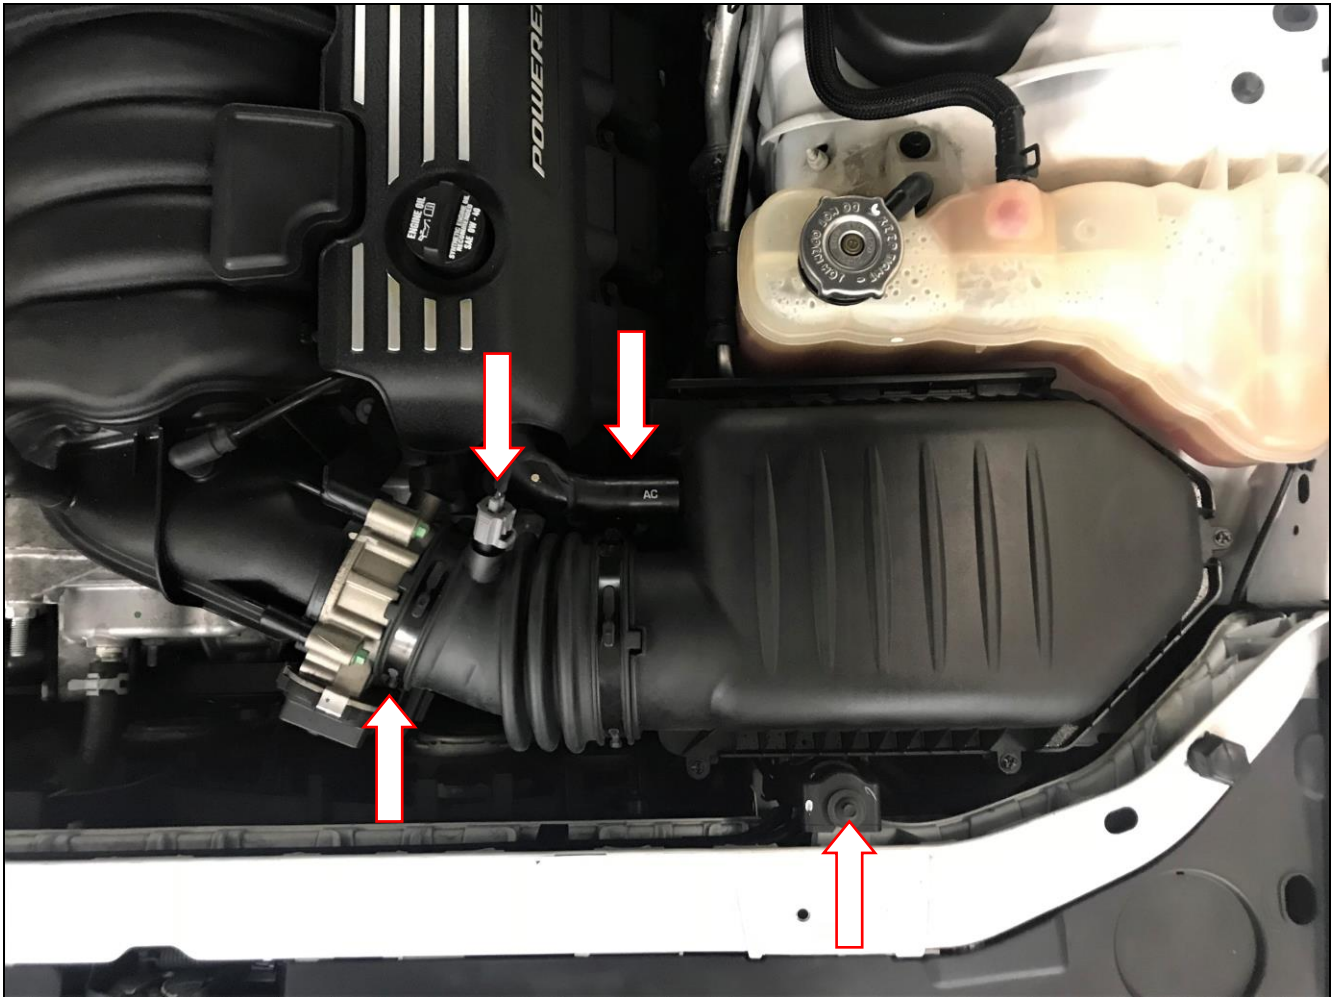

Figure 1
2. Disconnect the crankcase vent (CCV) hose connected to the factory intake housing (**Figure 1**).
3. Disconnect the temperature sensor plug from the temperature sensor by firmly squeezing and pulling (**Figure 1**).
4. Remove the bolt securing the factory airbox in place and save for later use (**Figure 1**).
5. Loosen the hose clamp securing the intake tube to the throttle body (**Figure 1**).